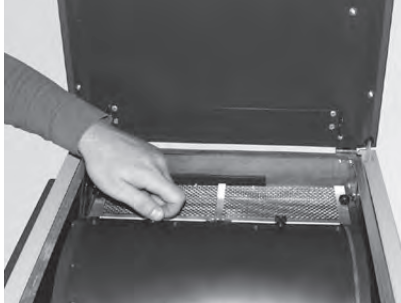

Fig. 143 Removing the knurled screws
- Remove both knurled screws (Fig. 143) and fold open the inspection cover.